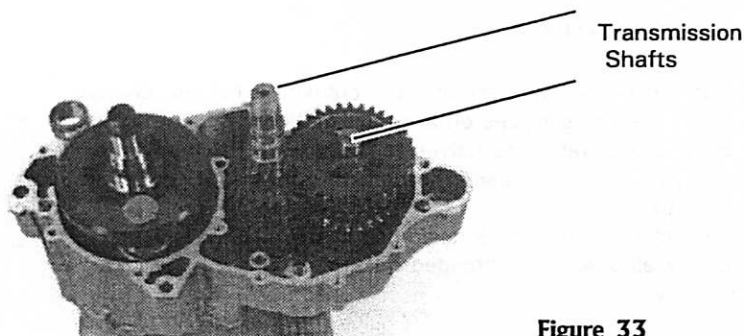

Figure 33
6. Remove the transmission shafts (Figure 33) as follows: